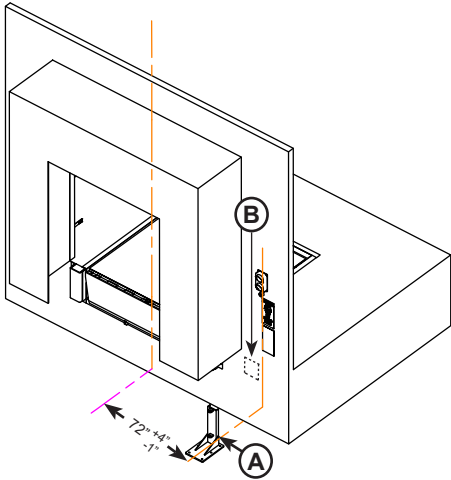

Figure 19
1. Position center of mounting post **(A)** at the distance shown on the site survey, which is measured from the center of the dock leveler and also from the building face. See **figure 19**. This dimension is typically 72". Reference Site Survey to confirm details, or contact Technical Service with questions. Spacing can deviate +4" or -1".